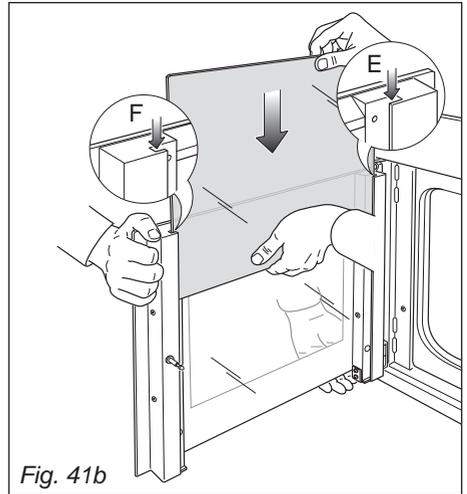
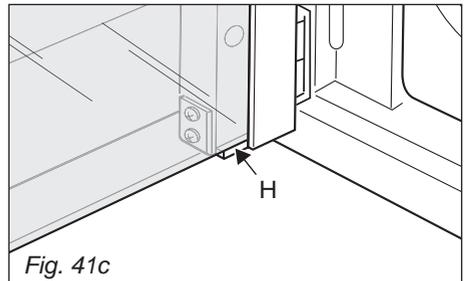

Fig. 41b
Fig. 41c
- Whilst one person holds the door still, a second person should insert the inner pane in the left "E" and right "F" side guides (fig. 41b) and gently let it slide up to the retainers "H" (fig. 41c). Forceful replacement of the door glass may lead to damage of the door hinges.